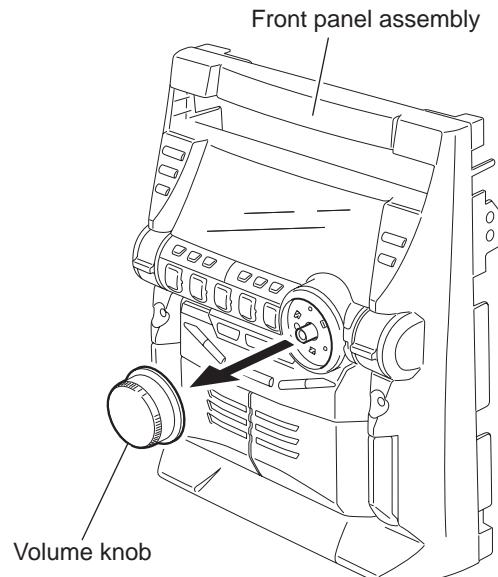

Fig.28
3.1.8 Removing the LCD board, CD tray eject switch board, REC select switch board and Operation board (See Fig.28 , 29)